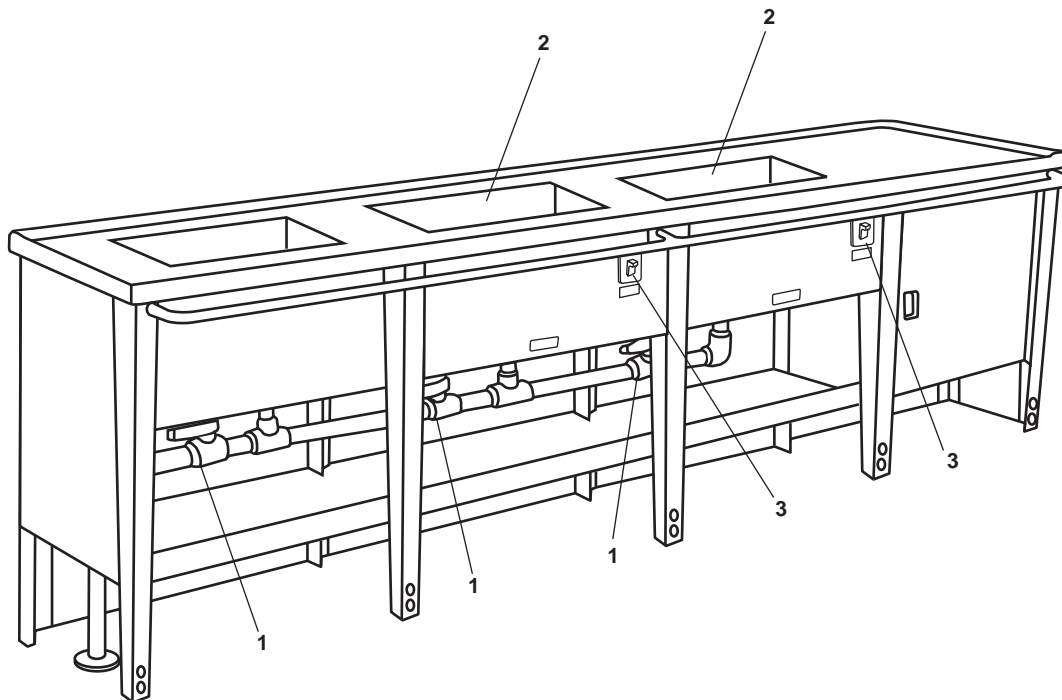

Figure 17. Steam Table
2. At the steam table, close the drain valves (figure 17, item 1).
3. Fill the wells (figure 17, item 2) with water to 1 inch above the heating elements.
4. Set the POWER switches (figure 17, item 3) to the ON position.
- a. At the steam table, set the POWER switches (figure 17, item 3) to the OFF position.
- c. To empty the wells (figure 17, item 2), place suitably sized drain pans under the valves (figure 17, item 1). Open the valves until all water has drained from the wells. After the water has drained, use a sponge or a clean rag to clear the wells. Wipe dry with a clean soft cloth. Close the drain valves.